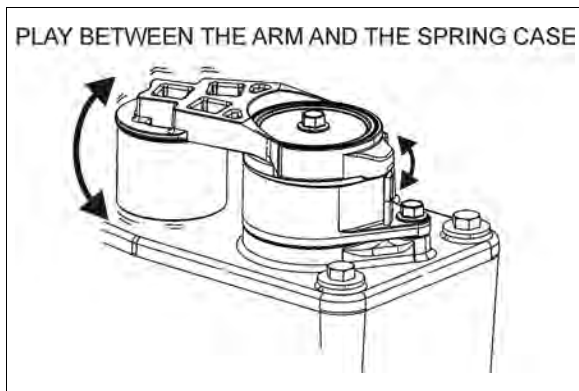

FIGURE 25: CHECKING BUSHING WEAR
2. Pry the automatic belt tensioner arm and check for a play between the arm and the spring case (FIGURE 25).